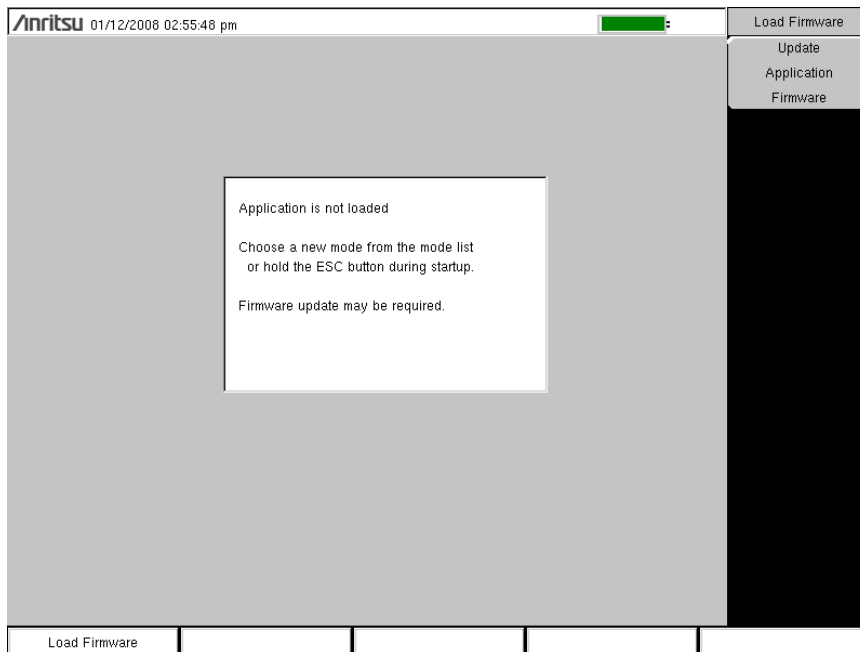

Figure 5-8. Firmware Main Menu
2. Press the follow key sequence: **Shift > System (8) > System Options > Reset > Update Firmware**. The Load Firmware main menu key is displayed (Figure 5-8).